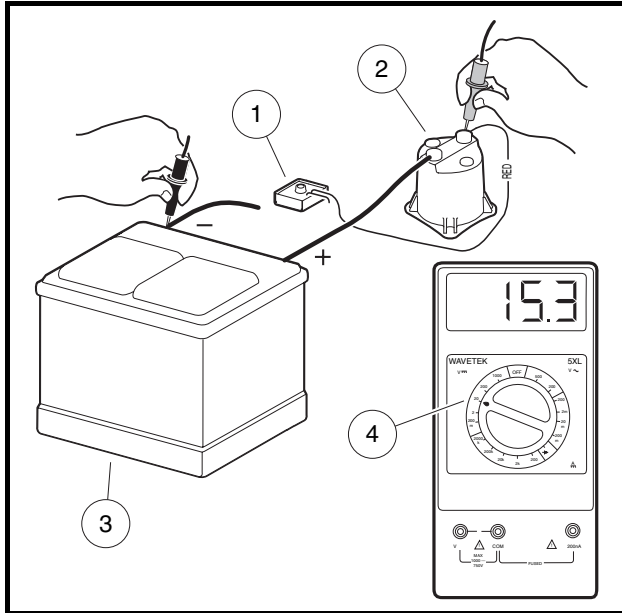

Figure 12-15 Voltage Regulator Test
5. Turn the key switch to the OFF position, killing the engine. Using a multimeter set to 20 volts DC, place the red (+) probe on the large post of the solenoid with the red wire from the voltage regulator attached. Place the black (–) probe on the negative (–) battery post (**Figure 12-15, Page 12-19**). Turn the key switch to the ON position. Press the accelerator to start the engine and run it at full governed speed. If